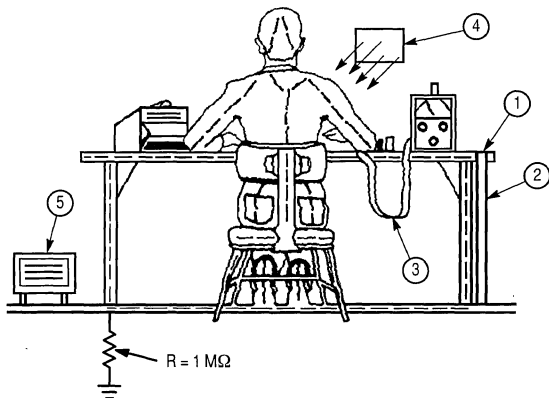

Figure 6. Typical Manufacturing Work Station
7. All CMOS devices should be placed on a grounded bench surface and operators should ground themselves prior to handling devices, because a worker can be statically charged with respect to the bench surface. Wrist straps in contact with skin are essential and should be tested daily. See Figure 6 for an example of a typical work station.